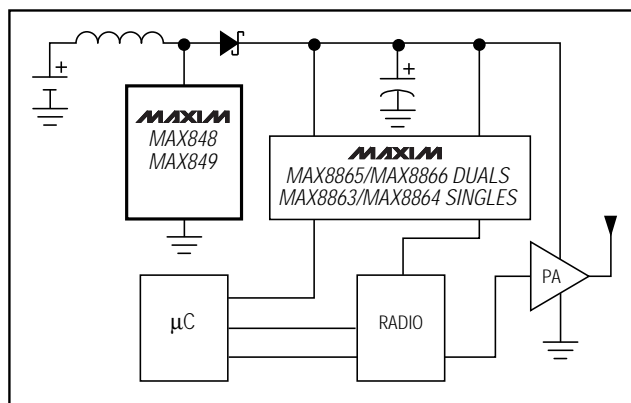

Figure 10. Typical Phone Application
The MAX849 is an ideal power supply for the power amplifier (PA) and the radio used in digital cordless and PCS phones (Figure 10). The PA is directly powered by the MAX849 for maximum output swing. Post-linear regulators power the controller and the radio. In addition, they reduce switching noise and ripple. Table 3 lists the output power available when operating with one or more NiCd/NiMH cells or one Li-Ion cell.